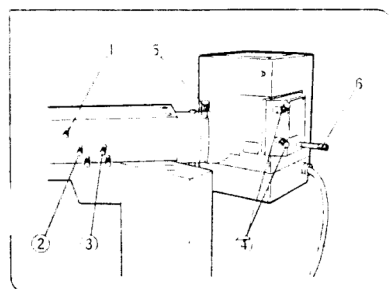

Fig. 17
(Figs. 17, 18)
6. Using the burner centering knobs ④, adjust so that two arc images are visible side by side in the field of view. (Figs. 17, 18-A, B)
7. Adjust focusing of the direct arc image using the collector lens focusing knob ⑤. (Figs. 17, 18-C)
8. The burner focusing knob ⑥ changes the image as follows depending on the direction in which it is turned. (Fig. 17)
9. Refocus the direct arc image using the collector lens focusing knob (5). (Figs. 17, 18-C)
10. Turn the burner focusing knob in direction (1) so that both arc images are blurred to the same degree. (Figs. 17, 18-F)
11. Refocus the direct arc image using the collector lens focusing knob (5). (Figs. 17, 18-G)
12. Fine-adjust the burner focusing knob (6) so that both arc images blur at the same time when you turn the collector lens focusing knob (5). (Figs. 17, 18-H)
13. Turn the collector lens focusing knob (5) so that the brightness of the two arc images is greatest.
14. Turn the burner centering knobs so that the direct arc image and the reflected arc image overlap. (Figs. 17, 18-J)
- Using the burner centering knobs ④, adjust so that two arc images are visible side by side in the field of view. (Figs. 17, 18-A', B')
- Adjust focusing of the direct arc image using the collector lens focusing knob ⑤. (Figs. 17, 18-C')
- The burner focusing knob ⑥ changes the image as follows depending on the direction in which it is turned. (Fig. 17)
(1) As you turn the knob, the blurred reflected arc image becomes gradually clearer, and the formerly focused direct image becomes blurred.
(2) Turning the knob in the opposite direction causes both images to become blurred.
Adjust by turning the burner focusing knob ⑥ in the direction that results in condition (1). (Figs. 17, 18-D')
10. Refocus the direct arc image using the collector lens focusing knob ⑤. (Figs. 17, 18-E')
11. Turn the burner focusing knob in direction (1) so that both arc images are blurred to the same degree. (Figs. 17, 18-F')
12. Refocus the direct arc image using the collector lens focusing knob ⑤. (Figs. 17, 18-G')
13. Fine-adjust the burner focusing knob ⑥ so that both arc images blur at the same time when you turn the collector lens focusing knob ⑤. (Figs. 17, 18-H')
14. Turn the collector lens focusing knob ⑤ so that the brightness of the two arc images is greatest.
15. Turn the burner centering knobs so that the direct arc image and the reflected arc image overlap. (Figs. 17, 18-J')